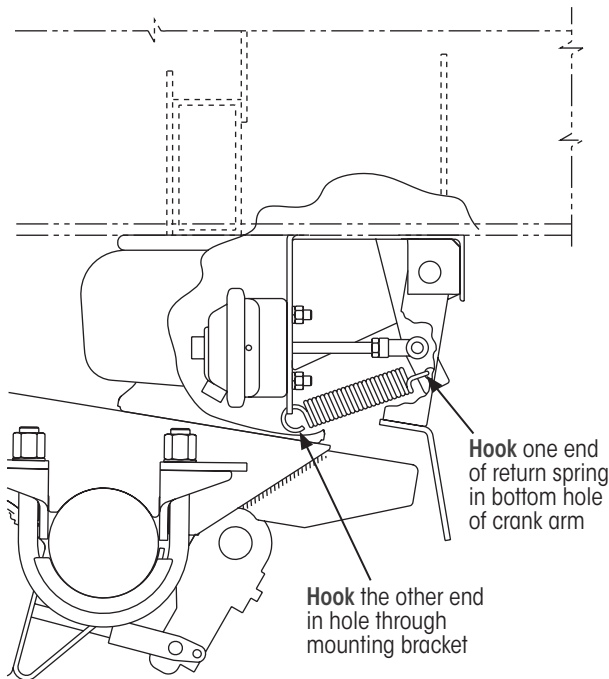

Figure 53: Spring installation details
1. **Hook** one end of the spring to the mounting bracket (Figure 53).